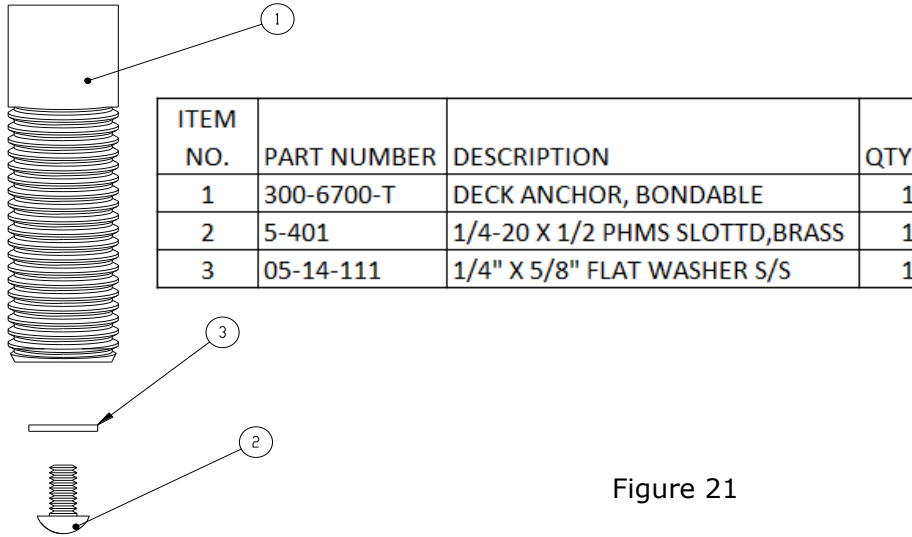

Figure 21
7. Bond at least one of the flush deck anchors per local codes. Contact your local Authority having jurisdiction for the bonding requirements in your area. A threaded hole for attaching a bonding screw is provided on bottom side of one of the deck anchors. Use the screw provided with the deck anchor kit to attach the bonding wire to the deck anchor. See Figure 21.